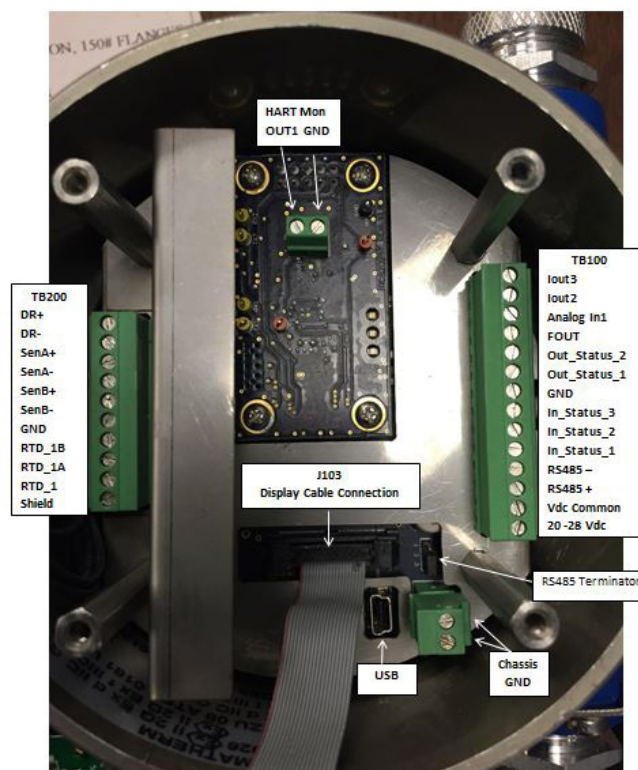

Figure 23: Wiring reference: RCTX with display, shown with display board removed for clarity
1. Connect an 18...28V DC Class 2 power source as illustrated in the schematic in *Figure 23*. Terminal blocks in the RCTX accommodate wire gauges up to 16 AWG.
See *Figure 23*.